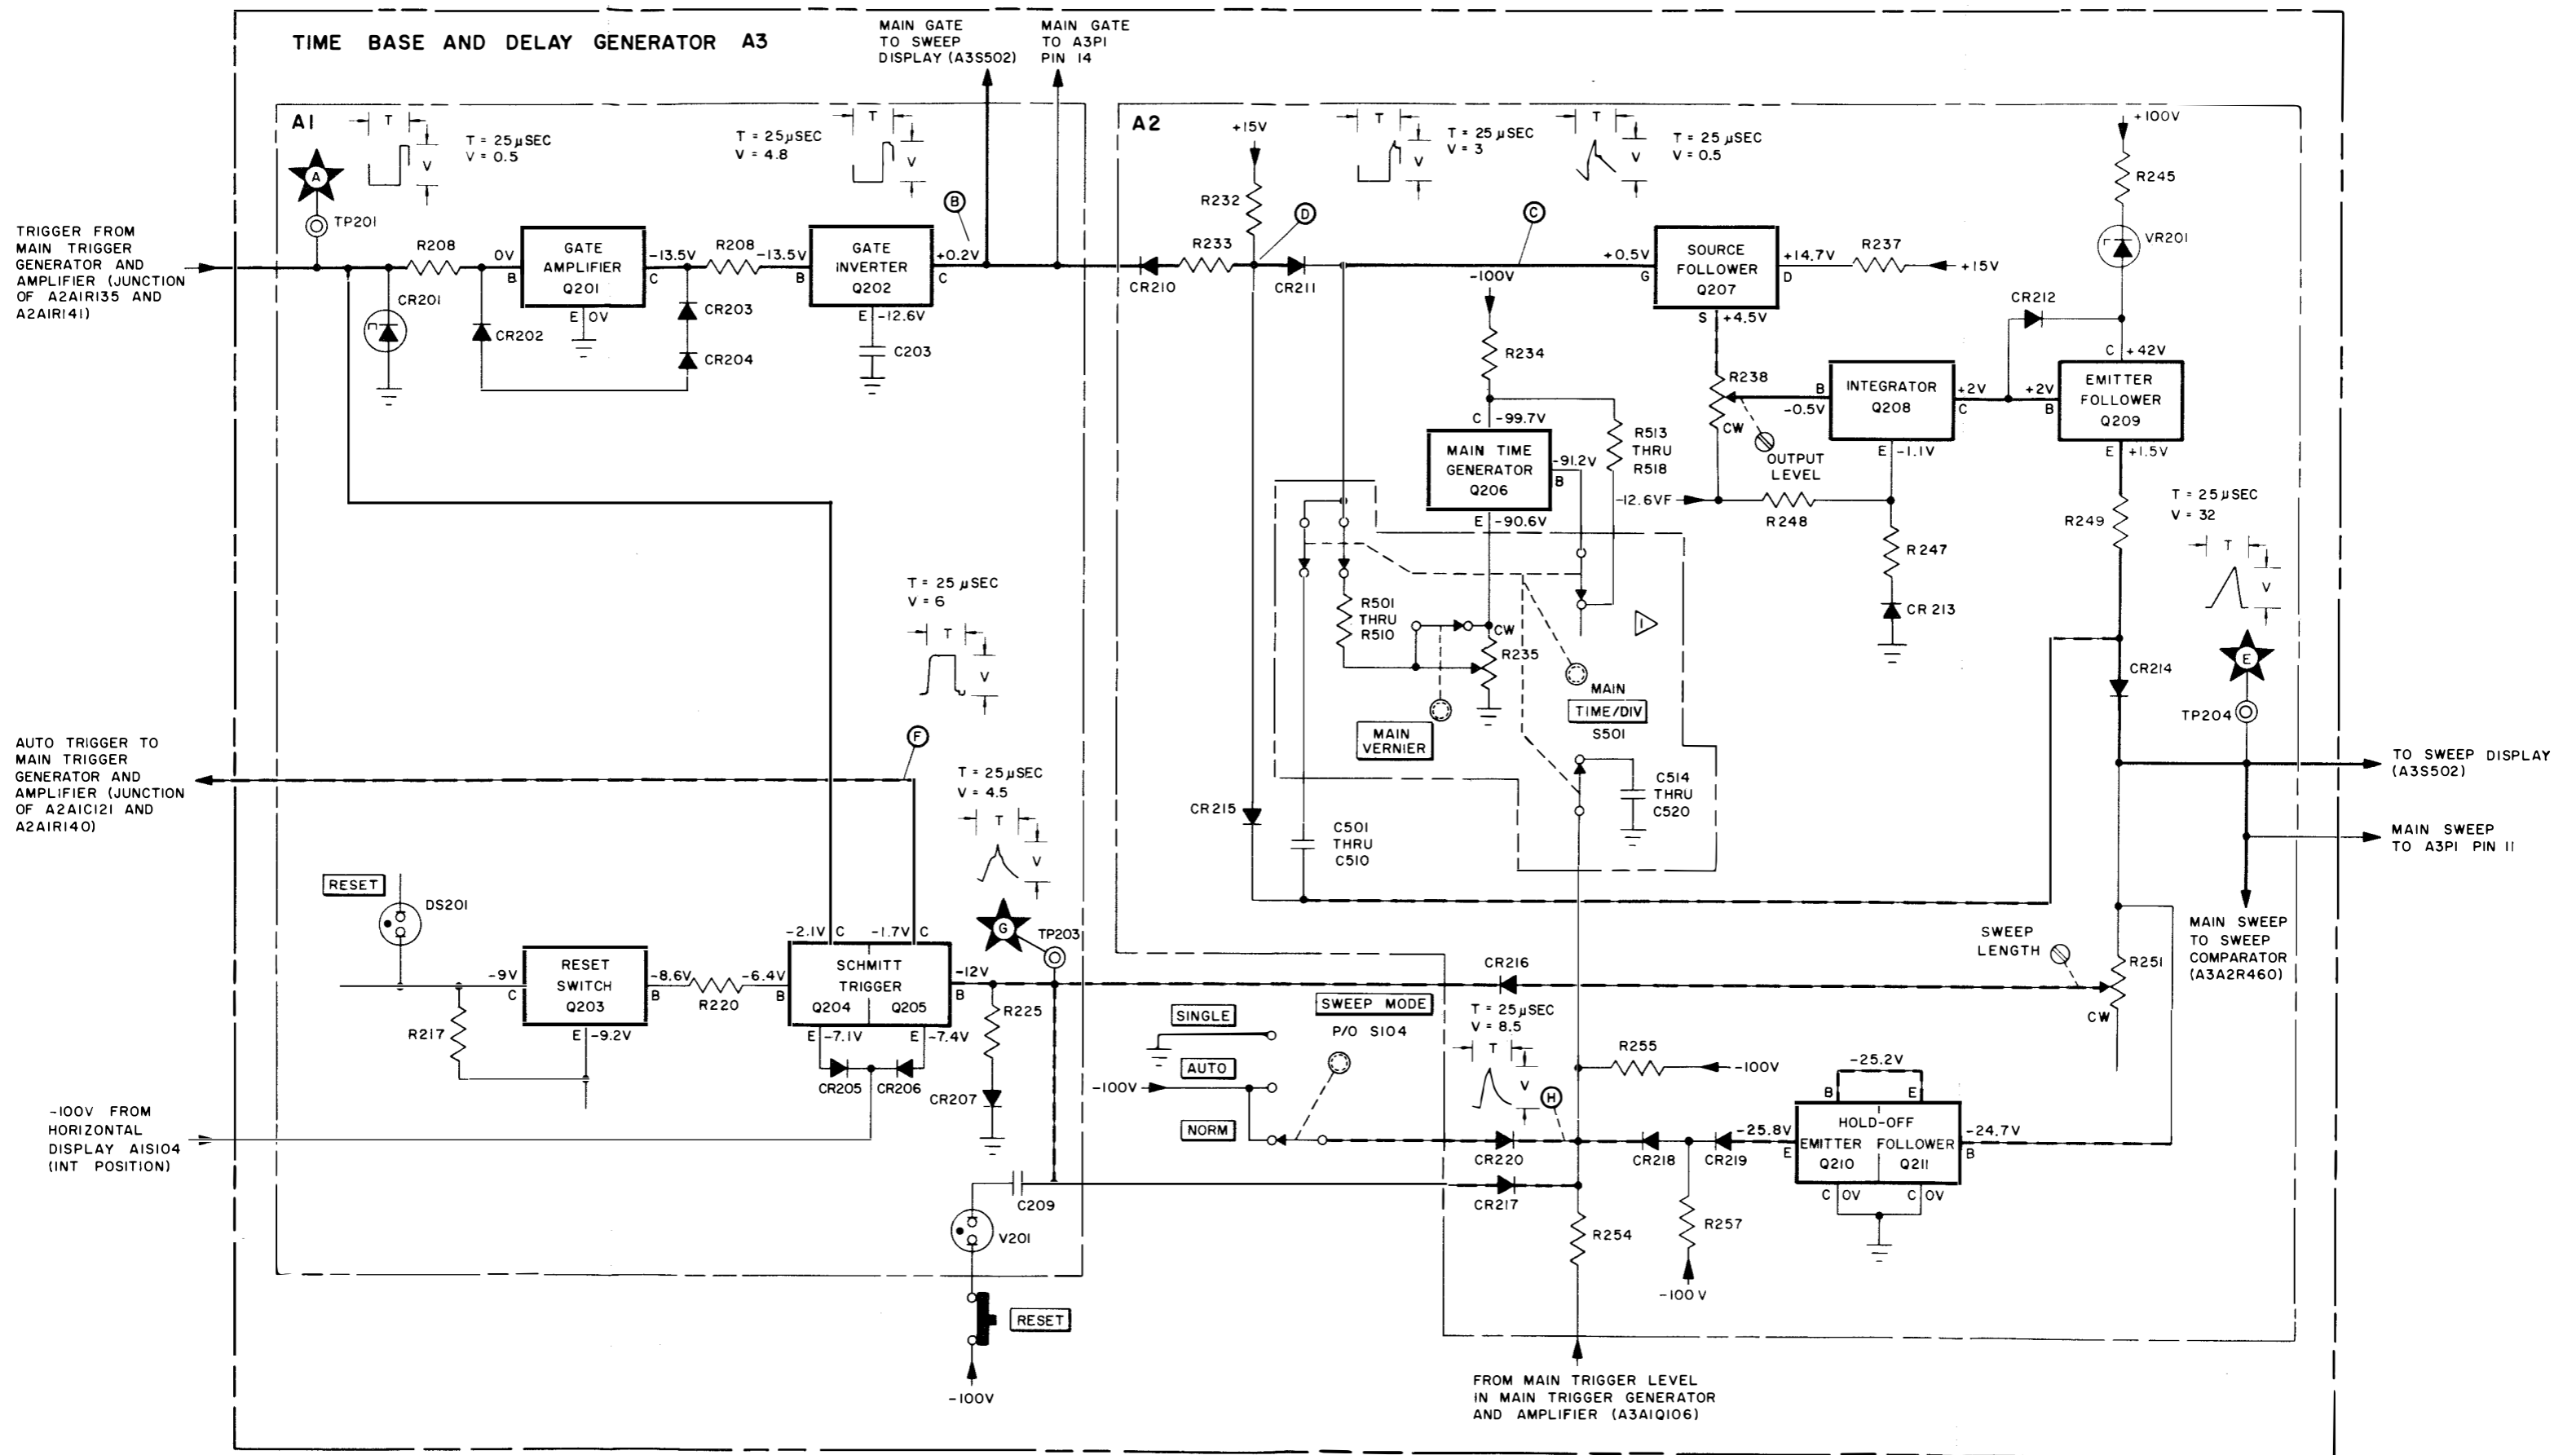

Figure 4-13. Main Sweep Generator Functional and Servicing Block Diagram (Sheet 2 of 2)
b. MAIN SWEEP GENERATOR TROUBLE SHOOTING. - The trouble-shooting chart for the main sweep generator functional section is provided in table 4-12 and the servicing block diagram is shown in figure 4-13.
The main sweep generator functional section contains the main gate generator and the main sweep generator. A malfunction in this section can cause any of the following conditions: A failure to produce a trace or spot, a non-linear sweep, or a sweep of improper length. If a trace cannot be obtained and the screen is dark, check the gate amplifier functional section and the main trigger generator and amplifier functional section first. If these sections are functioning properly, the problem is probably in the main gate generator circuitry (A3A1Q201/A3A1Q202). See figure 4-13. If a spot or improper sweep is obtained while operating in the internal position, the problem is in the horizontal amplifier functional section or the main sweep generator functional section. The horizontal amplifier functional section can be quickly eliminated by setting the horizontal DISPLAY to EXT CAL, connecting the CALIBRATOR 10V output to the horizontal EXT INPUT and verifying that a trace of approximately 10 div appears on the CRT. If the horizontal amplifier functional section is operating properly, return the horizontal DISPLAY to INT and set the SWEEP MODE to SINGLE. If a proper sweep can be obtained in the SINGLE mode, the trouble is probably in the hold-off emitter follower circuitry
fails to locate the defective component, set the controls as listed in figure 4-13 and check all voltages in this section. When an incorrect voltage is discovered, an analysis of the factors that could cause the improper voltage should aid in locating the defective component. After locating the defective component and completing the repair, refer to Section 5 and perform the main output level, main sweep length, and main sweep time adjustments.
c. USEFUL ILLUSTRATIONS. - Illustrations useful in maintaining this functional section are: Figures 4-13, 5-26, 5-27, 5-28 and 5-32.